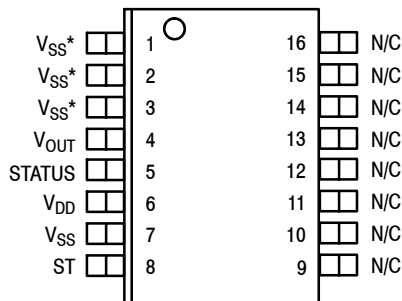

Figure 3. Pinout Description
- Place a ground plane beneath the accelerometer to reduce noise, the ground plane should be attached to all internal V_{SS} terminals shown in Figure 3.